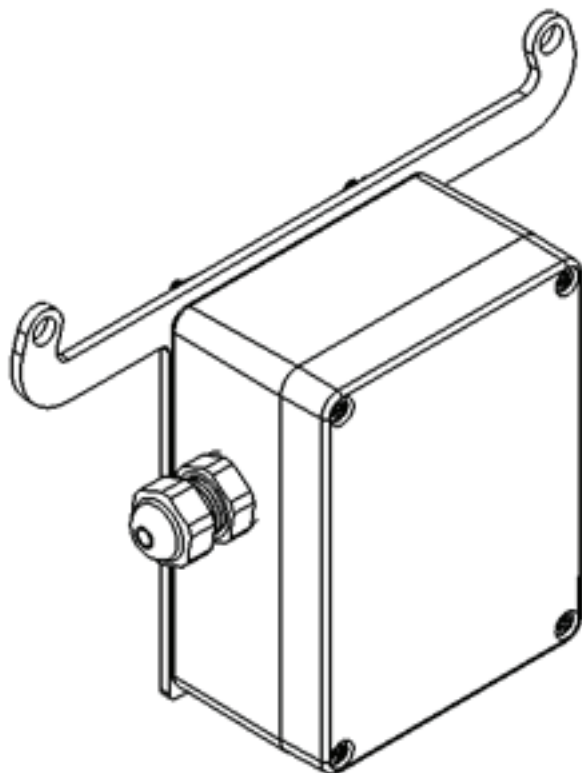
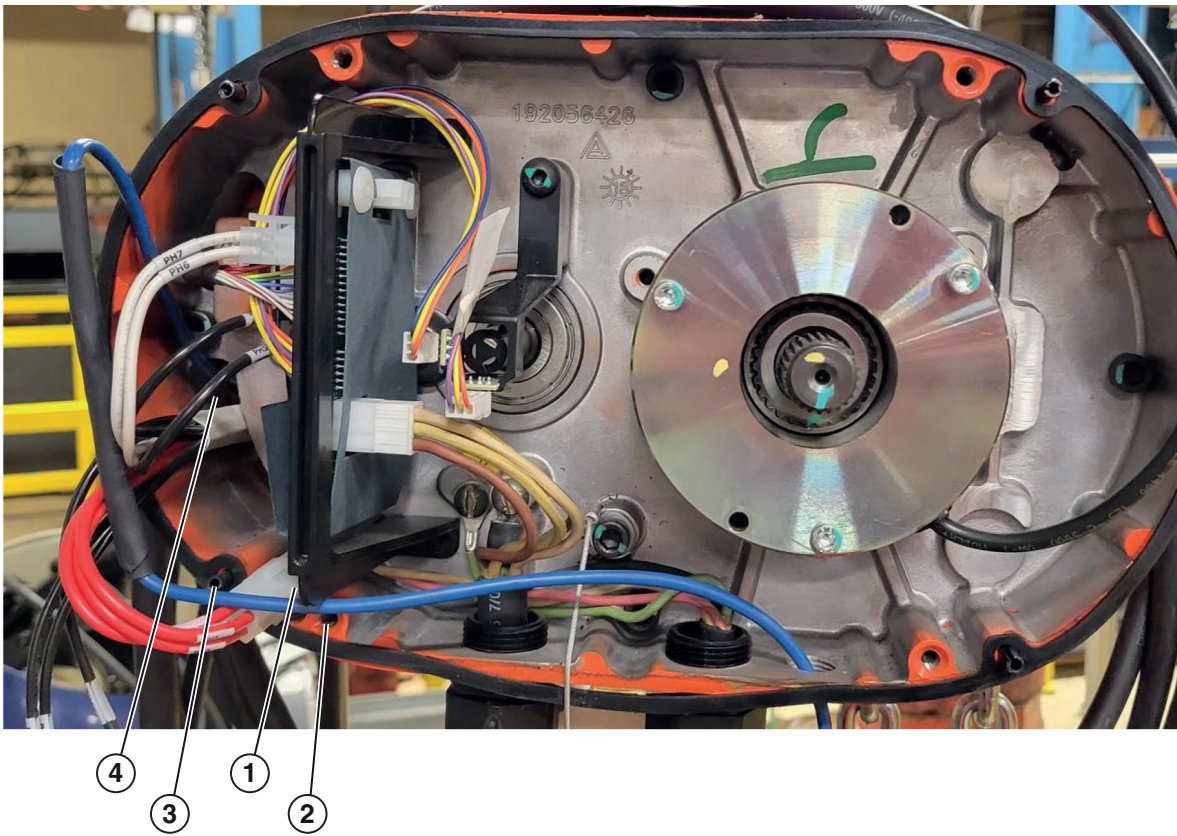
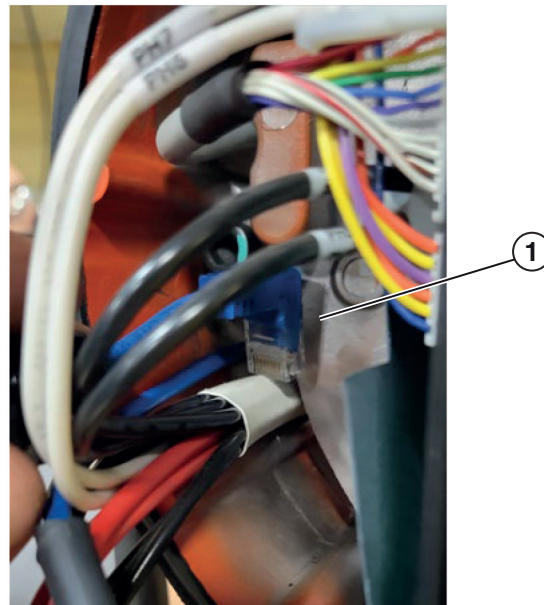

Figure 9: Pre-assembled V2 Intelli-Connect Mobile
Figure 14: Cable Routing
Figure 15: RJ45 Orientation to Route Through Bottom Wireway
Figure 9 shows the V2 pre-assembled contents of the Intelli-Connect Mobile hardware kit (same as the V1 kit but with a different mounting bracket).
5. Run the ethernet cable down the side of the hoist, alongside the existing wiring harness, to plug the ethernet cable into the VFD ethernet port. Bring the assembled Intelli-Connect Mobile kit box/bracket from **Figure 9** close enough to the hoist to plug the ethernet cord into the VFD. Follow **Figure 14** for the cable routing inside the hoist as well as the optimal position of the RJ45 to guide it through the wireway as shown in **Figure 15**.